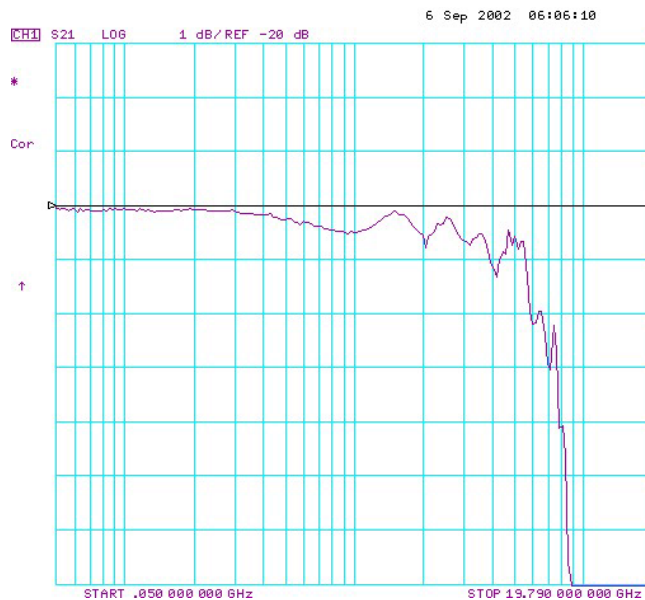

Figure 231 Typical V_{out} Waveform for an 1134B Probe
- 43 The display on screen is V_{out} and it should be similar to that shown in **Figure 231** on page 214.